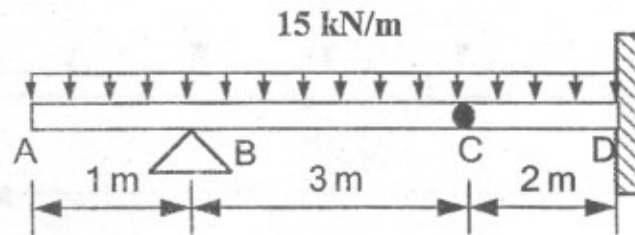

Fig. 3
3. (a) Plot the shear force and bending moment diagram showing the salient points for the compound beam shown in Fig. 3. The beam is supported at B and D and has an internal hinge at C. [8]